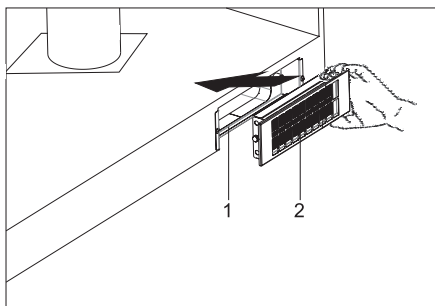

Fig. 43
- 7. Insert the activated carbon filter (Fig. 43/2) into the activated carbon filter housing (Fig. 43/1)